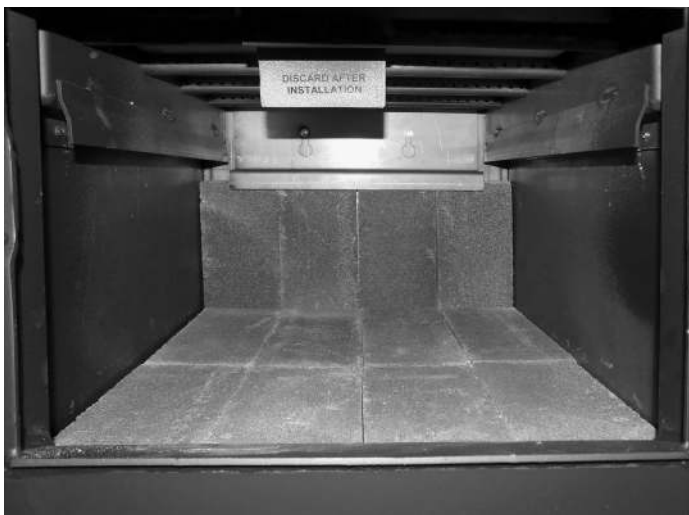

Figure 14: Floor bricks laying lengthwise.jpg
3. Place the floor bricks as shown in Figure 14.